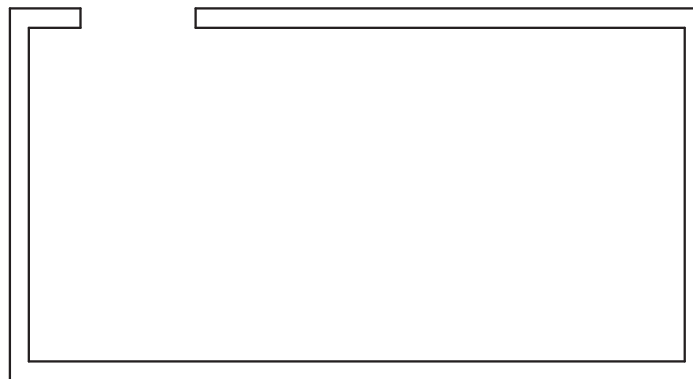

Fig. 16-8
The **Multiline Style** dialog box permits you to change the appearance of multilines and save custom multiline styles. Let's use this dialog box to produce the drawing of a room, as shown in Fig. 16-8.
3. With **MLINE** entered, create the drawing shown in Fig. 16-8 on page 204, approximating its size.